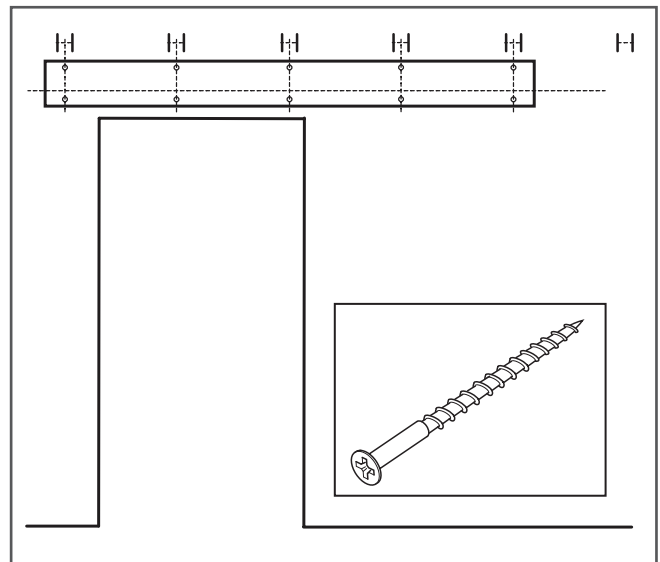

Figure 8
8. Align the line on the wall with the line made on the header in step 4. Ensure pilot holes align with wall studs (Figure 8).
9. Install header using 3" wood screws (D.) (Figure 8).